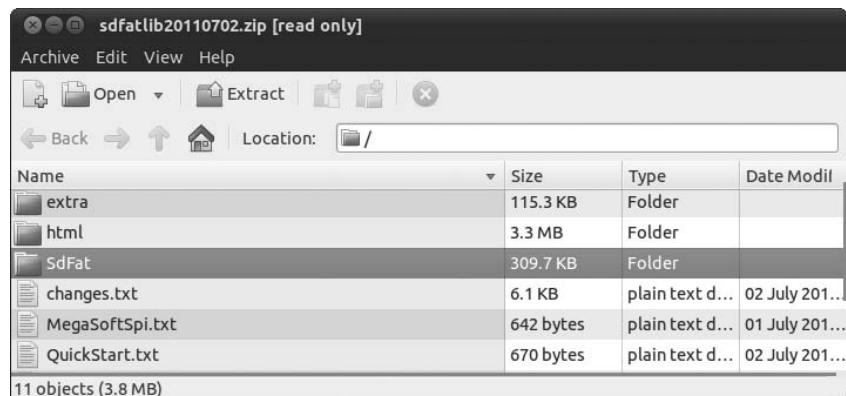
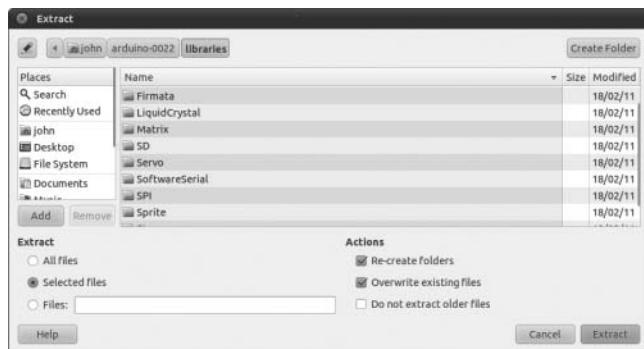

Figure 8-21: Downloaded library folder
Figure 8-22: Destination for library folder
1. Locate the downloaded file and double-click it. The Archive Manager window should appear with the *SdFat* folder, as shown in Figure 8-21.
- Right-click the *SdFat* folder in the window shown in Figure 8-21, and then click **Extract** to extract it to your */libraries* folder (Figure 8-22).